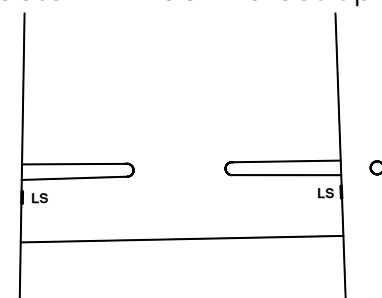

Figure 5
2. For standard U.S. 8 1/2" X 11" paper, move both paper guides in so that their inside edges align with the straight marks on the feed table denoted LS (see figure 5 for mark location). For A4 paper, align the *outside edges* of the paper guides with the straight marks denoted A4. Tighten both thumbscrews (Note: Do not over tighten thumbscrews).